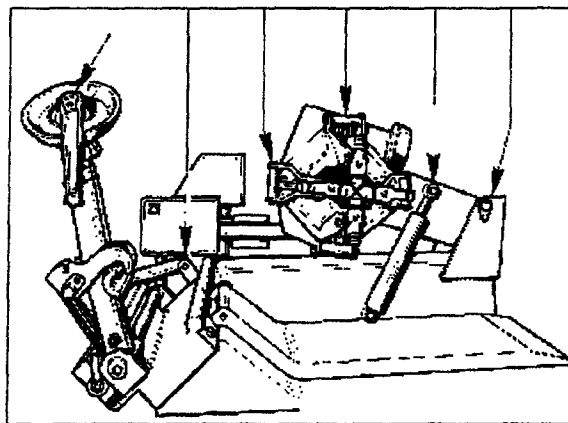

Fig.52
- Lubricate all points provided with a greasing nipple once a month (Fig.52).